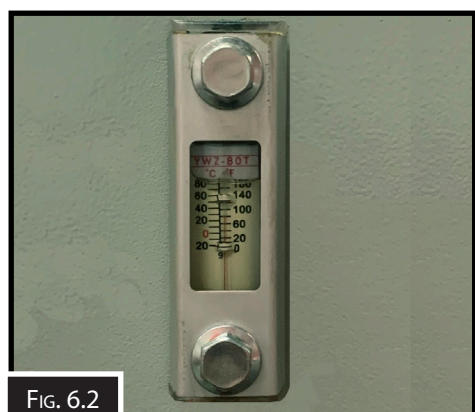

FIG. 6.2
10. Pour new hydraulic oil into the tank until it reaches the middle of the sight gauge.(Fig.6.2)